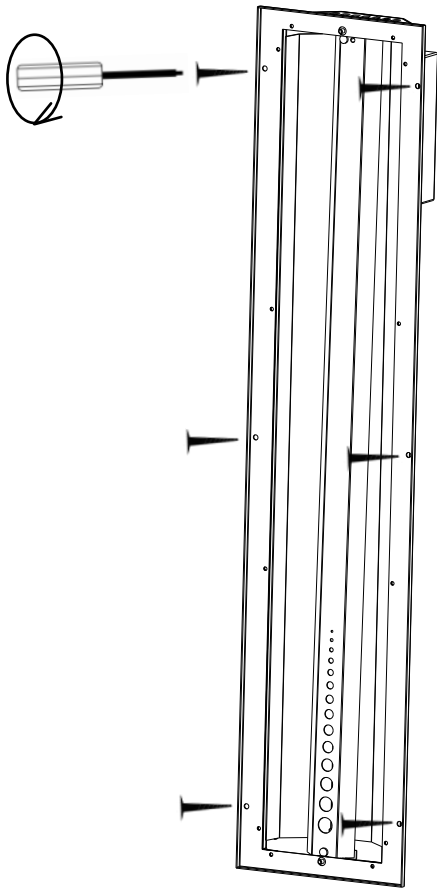

Fig.7 **Position of the screws**
8. Screw the infrared heater tight to the cabin wall using the wood screws (3 x 40 mm) provided. See Figure 7.